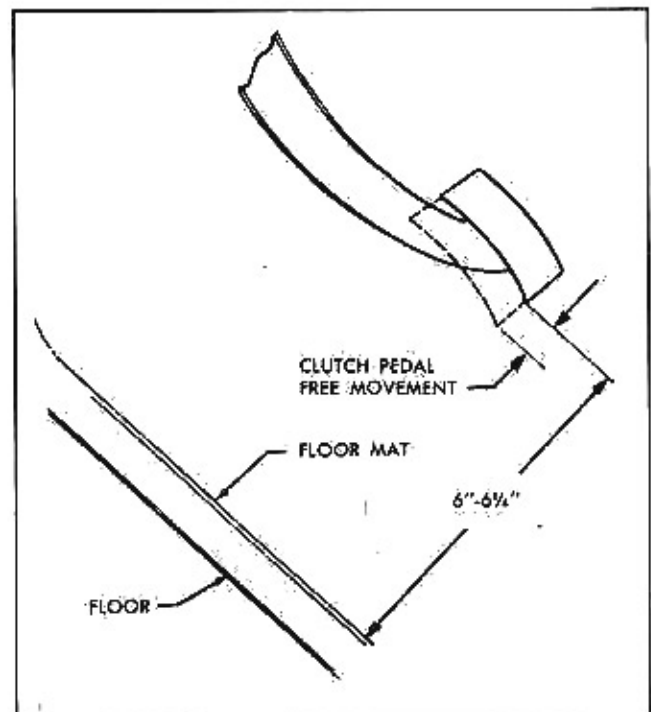

Fig. 6D-3 Proper Clutch Pedal Height and Clearance
4. Check pedal height. Pedal should be 6"-6 1/4" above floor mat (Fig. 6D-3). If adjustment is required, loosen pedal rod upper trunnion jam nuts and adjust. Tighten jam nuts after pedal adjustment to 60-120 lb. in. torque.